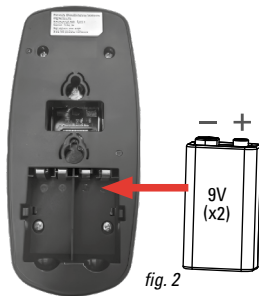

fig. 2
2. Remove old 9V batteries and install new batteries (Figure 2). When first connecting the batteries, the red ring light and green status light will stay solid for 3 seconds, followed by two beeps before entering standby mode. If the status light is yellow, the batteries are weak and must be replaced with new, high quality batteries.